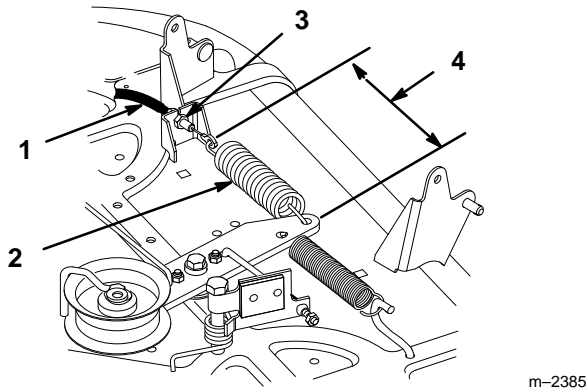

Figure 44
- Engage blade control (PTO) lever on dash. Measure distance between hook ends of idler spring (Fig. 44). Adjust jam nuts so 6" (150 mm) dimension is obtained (Fig. 44).